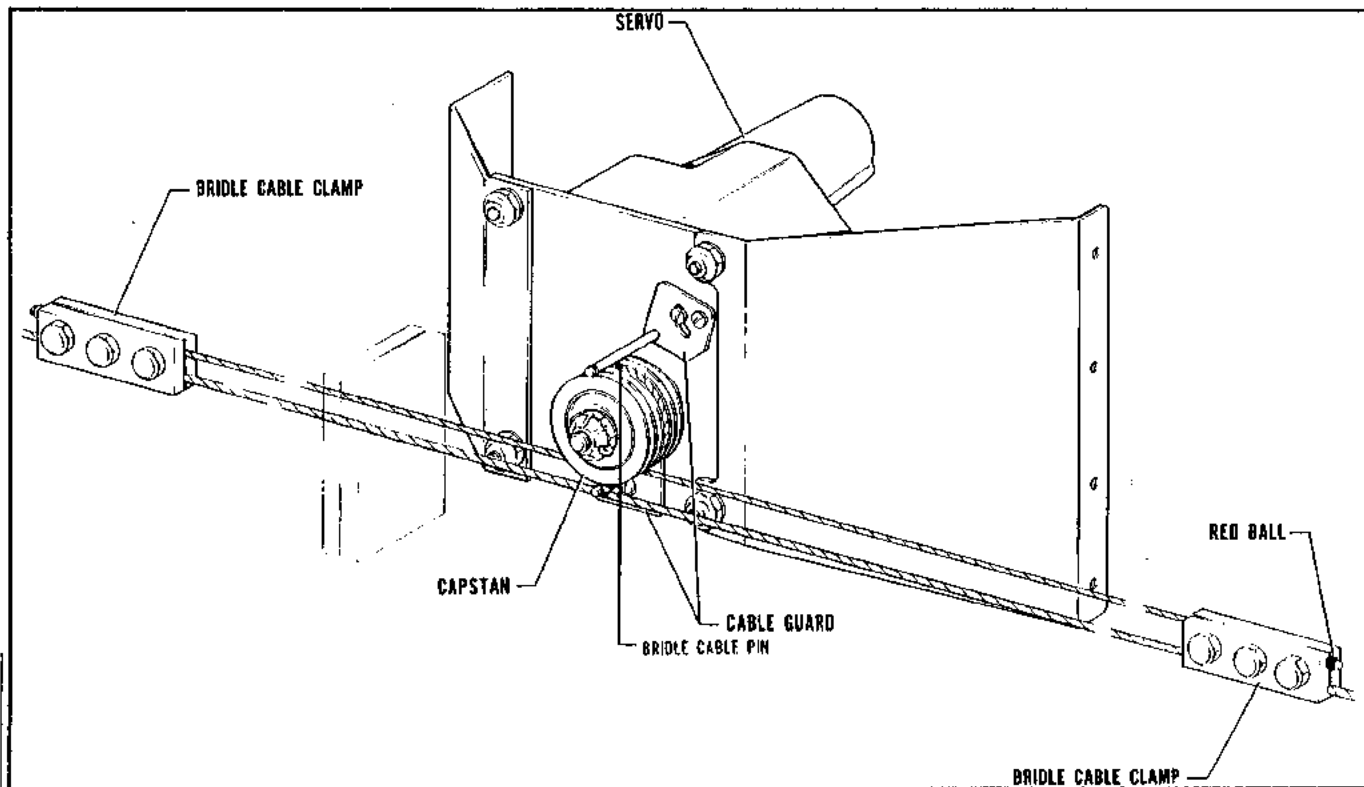

Figure 3-22. Roll Servo Installation, PA-31-310, PA-31-325, PA-31-350 and PA-31P
**3-46. INSTALLATION OF ROLL SERVO. (PA-31-310, PA-31-325, PA-31-350 and PA-31P) (Refer to Figure 3-22.)**
e. REFER TO FIGURE 3-8 AND CHECK THAT THE CONTROL CABLE TENSION (Z) IS ADJUSTED TO  $35 \pm 2$  POUNDS PRIOR TO ATTACHING THE BRIDLE CABLE CLAMPS. Ascertain area on cable where clamp attaches is clean, dry and free of all lubricants and anti-corrosive additives. Attach the bridle cable to the aileron control cable. The bridle cable is drawn to the aileron control cable and attached with clamps at the previously painted locations on the control cable. The end of the bridle cable with the red ball extends to the inboard section of the wing. (Should the aileron cable not be painted, position the control wheel in neutral and align the bridle cable pin installed in the capstan as shown in Figure 3-22.) Adjust the bridle cable clamps so that the bridle cable tension (Y) is equal to the control cable tension between the bridle cable clamps (X)  $17 \pm 2$  pounds without increasing the control cable tension from the bridle cable clamps outward. At no time shall the bridle cable tension be greater than the control cable tension between the clamps. Adjusting the bridle cable tension will lower the control cable tension between the two bridle cable clamps. Torque the bridle cable clamp bolts to  $55 \pm 5$  inch pounds.